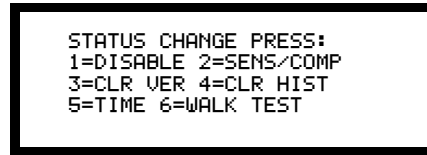
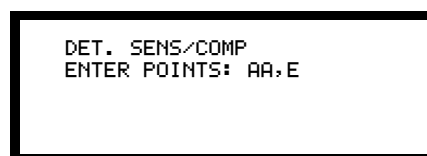
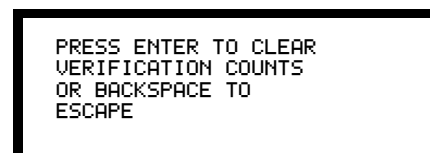

Figure 84 Status Change Screen
Figure 88 Detector Sensitivity/Comp Screen
Figure 90 Verification Count Clear Screen
You access all Status Change options from the Status Change screen (Figure 84). From the Program Entry screen (Figure 48 on page 66), enter your Status Change password to display the Status Change screen (Figure 84).
1. From the Status Change screen (Figure 84 on page 93), press the **1** key to display the Disable/Enable screen as shown in Figure 86.
6. When finished selecting Enable/Disable selections, press the BACKSPACE key to return to the Status Change screen (Figure 84 on page 93).
1. From the Status Change screen (Figure 84 on page 93), press the **2** key to display the Detector Sensitivity/Comp screen (Figure 88).
The Clear Verification Count screen (Figure 90) lets you clear all verification counters for detectors selected for Alarm Verification. To clear all verification counters, follow these steps:
1. From the Status Change screen (Figure 84 on page 93), press the **3** key to display the Verification Count Clear screen as shown in Figure 90:
2. Press the ENTER key to clear the verification counters or press the BACKSPACE key to return to the Status Change screen (Figure 84) without clearing the verification
1. From the Status Change screen (Figure 84 on page 93), press the **4** key to display the Clear History as shown in Figure 91.
2. Press the ENTER key to clear the contents of the History buffer or press the BACKSPACE key to return to the Status Change screen (Figure 84) without clearing.
1. From the Status Change screen (Figure 84 on page 93), press the **5** key to display the Time and Date screen. Figure 92 shows a sample Time and Date screen: